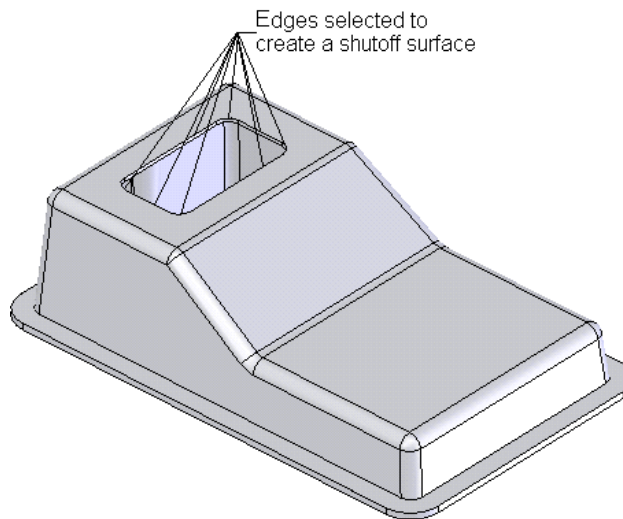

Figure 17-36 Edges selected to create a shutoff surface.
- Create the shut off surfaces, refer to Figures 17-36 and 17-37.
3. Select the edges to create a shutoff surface as shown in Figure 17-36.